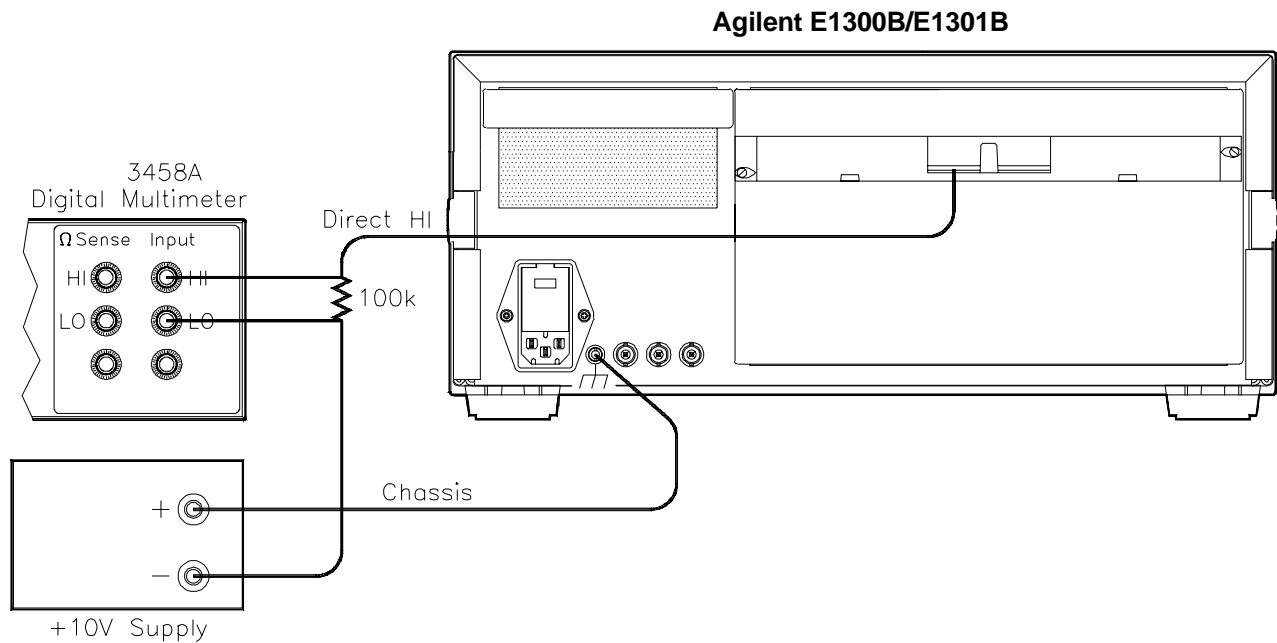

Figure 2-9. Negative HI to Chassis Leakage Connections
- Connect DMM, power supply, and resistor as shown in Figure 2-9